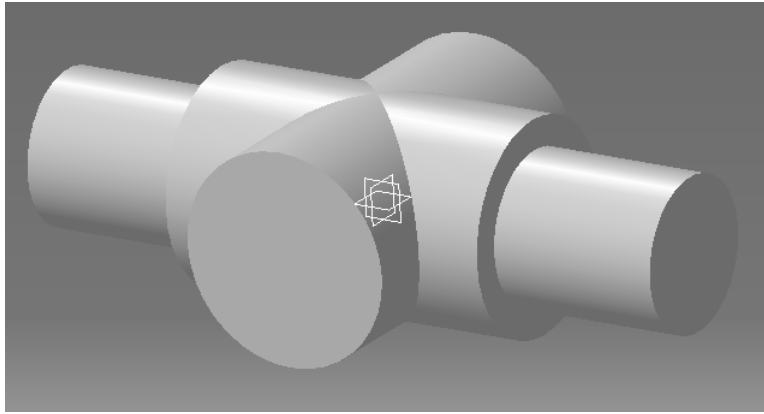

Figure 1.8
- 1.22 Select the OK button. The part should look similar the one shown in figure 1.8